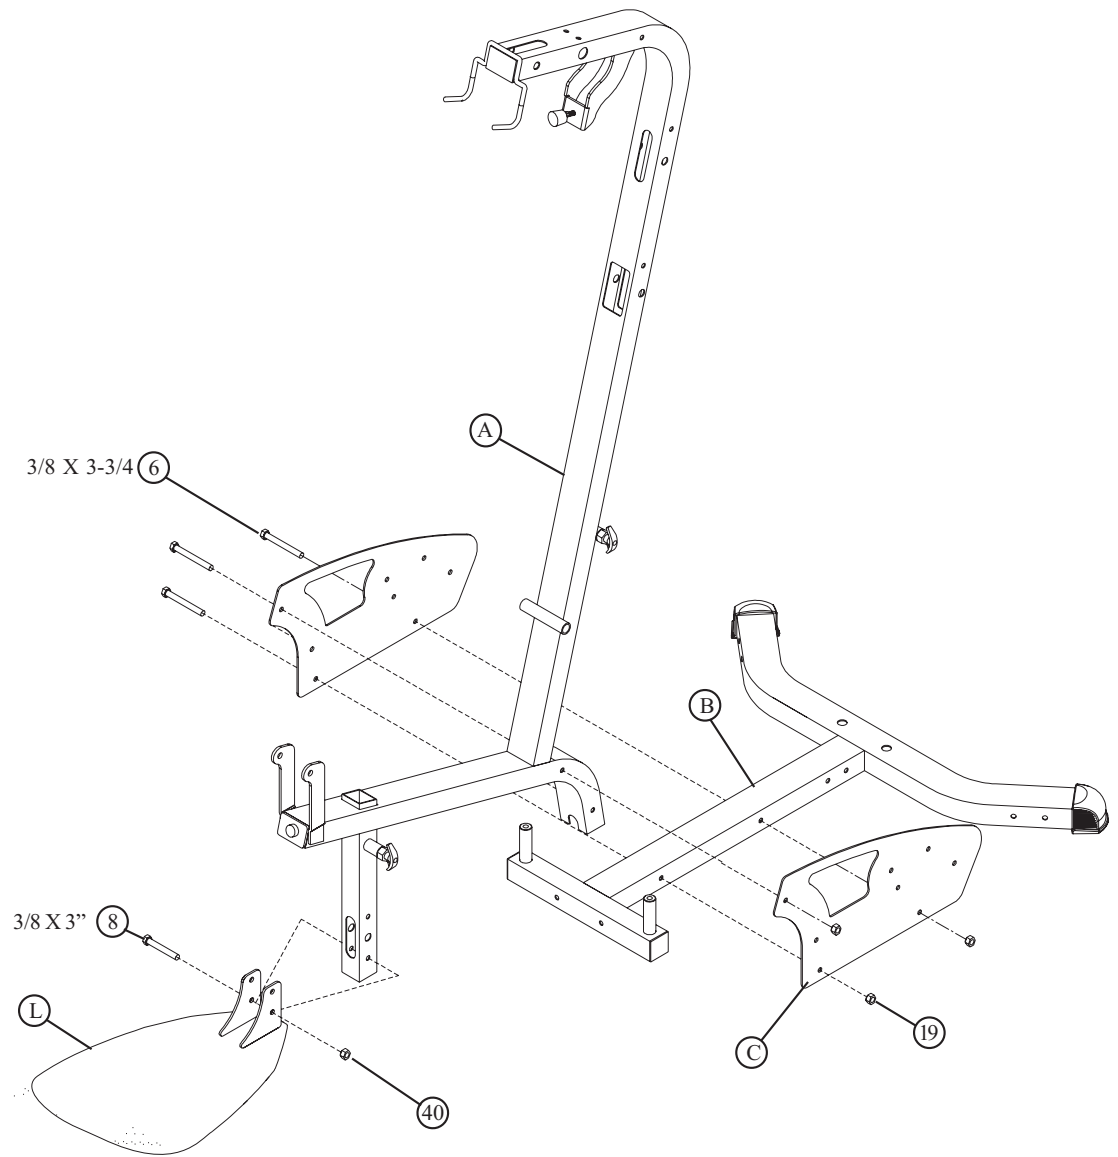

FIGURE 1
- **LOOSELY** assemble two BASE PLATES (C) to the FRAME (A) and BASE (B) using three 3/8 X 3-3/4" BOLTS (6) and three 3/8" SILVER LOCK NUTS (19). See FIGURE 1.
- **LOOSELY** assemble the FOOTPLATE (L) to the lower holes in FRAME (A) using one 3/8 X 3" BOLT (8) and one 3/8" BLACK LOCK NUT (40) as shown in FIGURE 1.